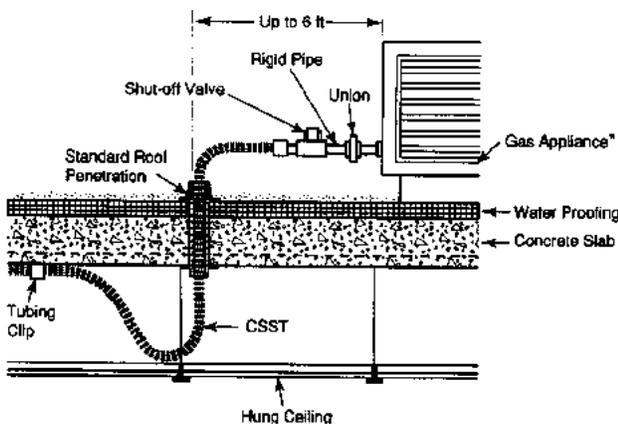

Figure 4-13 Short (1-6 foot) outdoor connection to roof mounted equipment
2. No special mechanical protection of the piping is required for connection to roof top equipment. Whenever possible, roof penetrations shall be located within 6 feet of the equipment to be connected as shown in figure 4-13. Long runs of tubing shall be supported with non-metallic blocks at the support interval listed in